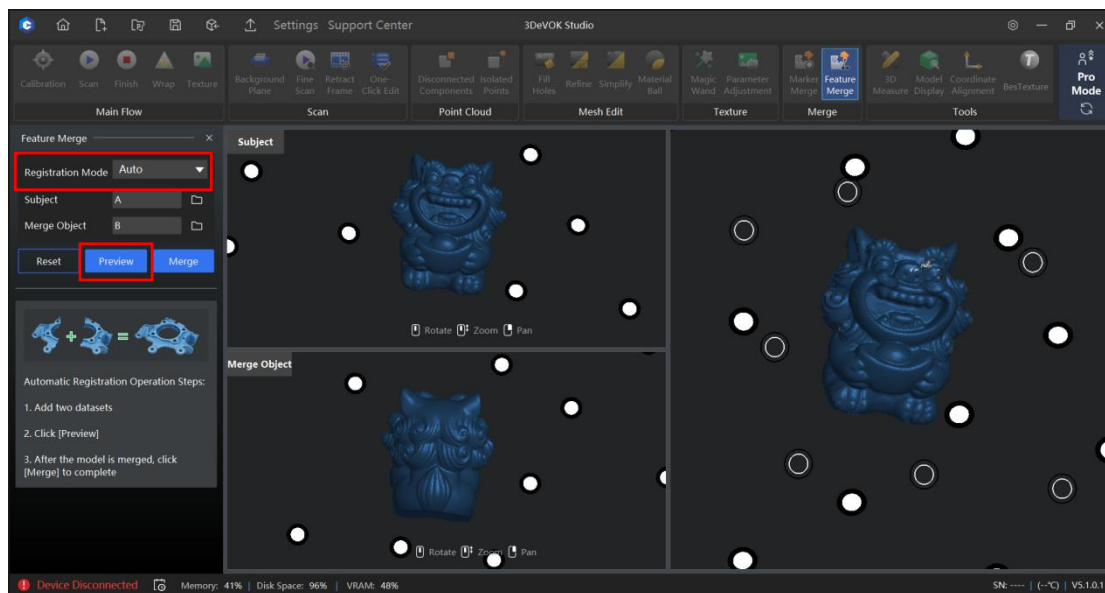

Figure 9-3 Auto Registration and Preview
4. For objects rich in geometric features, use the default "Auto" function in the "Registration Mode" section at the top-left corner of the software. Click the "Preview" button to view the merge effect in the right-hand window, as shown in Figure 9-3.